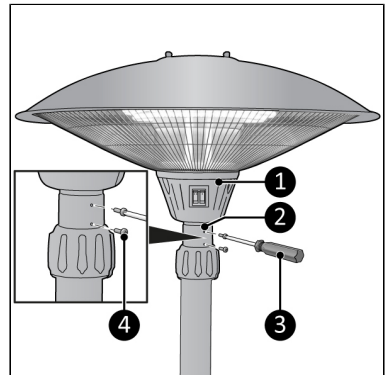

Figure 21.
8. Connect the heating cap (Figure 21, pos. 1) to the adjustable tube (Figure 21, pos. 2) with two small screws (Figure 21, pos. 4) using a Phillips screwdriver (Figure 21, pos. 3).